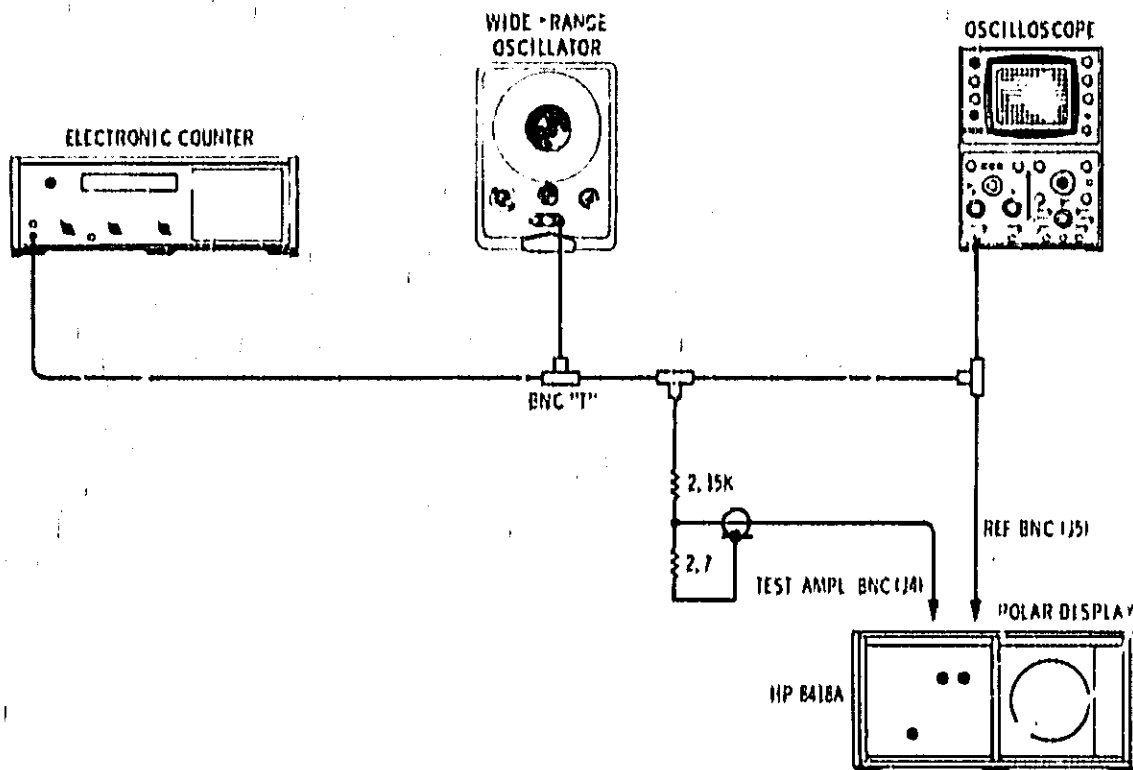
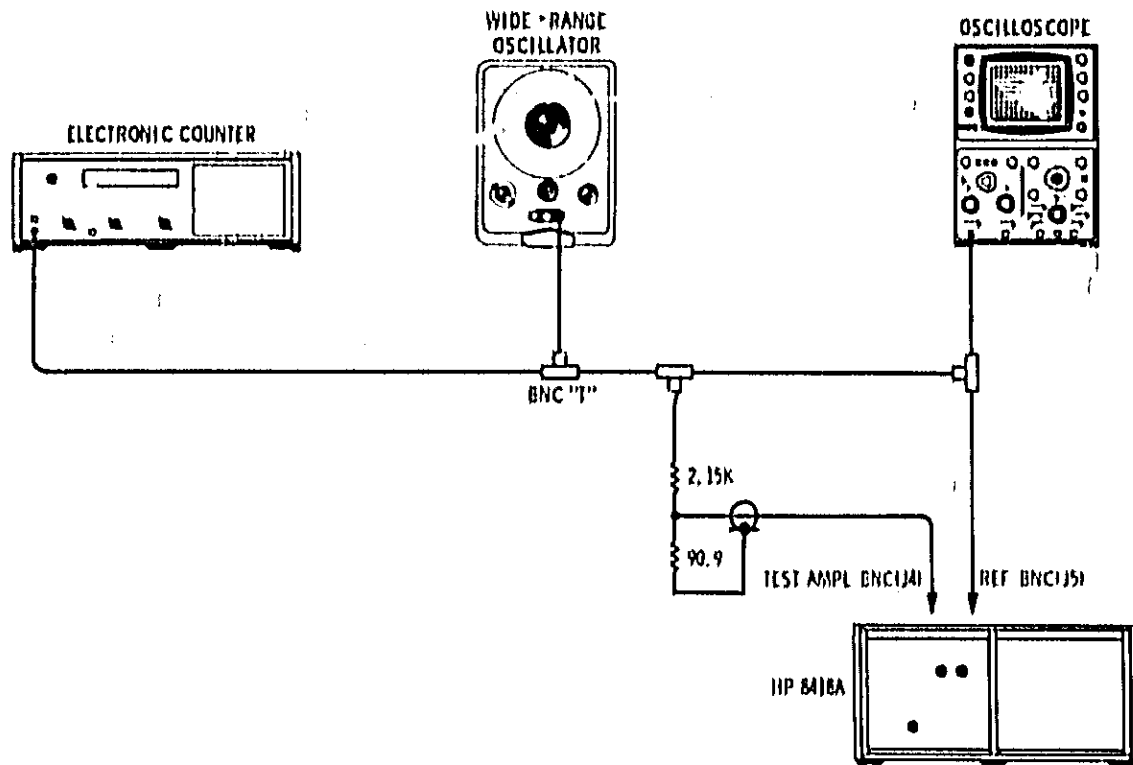

Figure 7. Phase Vernier Variation Test Setup.
Figure 8. Amplitude Vernier Variation Test Setup.
A2C10	PHASE VERNIER range (with 8414A). See Figure 7 for further information.
A2R12	Amplitude adjustment of A2 Phase Vernier Assembly. See Figure 8 for further information.
- c. Connect the equipment as shown in Figure 7.
b. Connect the equipment as shown in Figure 8. This equipment setup is similar to that of Figure 7 but the value of the resistor nearest ground in the divider stick is different.
If the trouble is in the Model 8418A, do the Performance Test given in Figures 7 and 8. This procedure will isolate the trouble to either the Power Supply, the Amplitude Vernier Assembly, or the Phase Vernier Assembly. When troubleshooting the individual circuits, an extender board (HP Part No. 5060-0049) is useful to extend the circuit board assemblies for easy measurement.